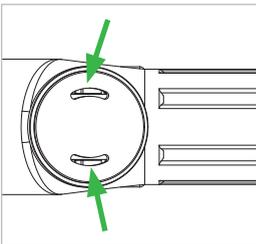

Figure 19
- ▶ Then replace the logo cap (Pos. 2) by hand and apply approx. 1-2 short bursts of spray into the openings on the left and right (*Figure 19*). Then mount the logo cap (Pos. 2). The logo cap should click audibly into place!